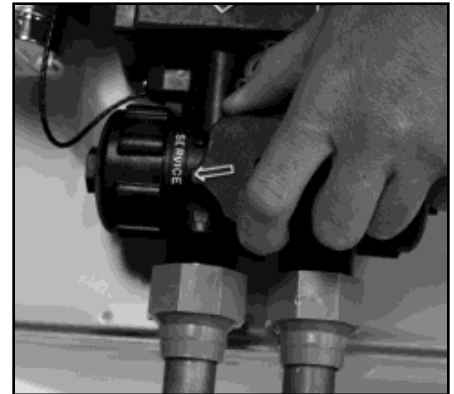

Figure 6: Service Position
6. Place the appliance in the Service position to slowly fill the media tank. (See Figure 6)
- A. Ensure that the appliance is in the Service position. (See Figure 6)